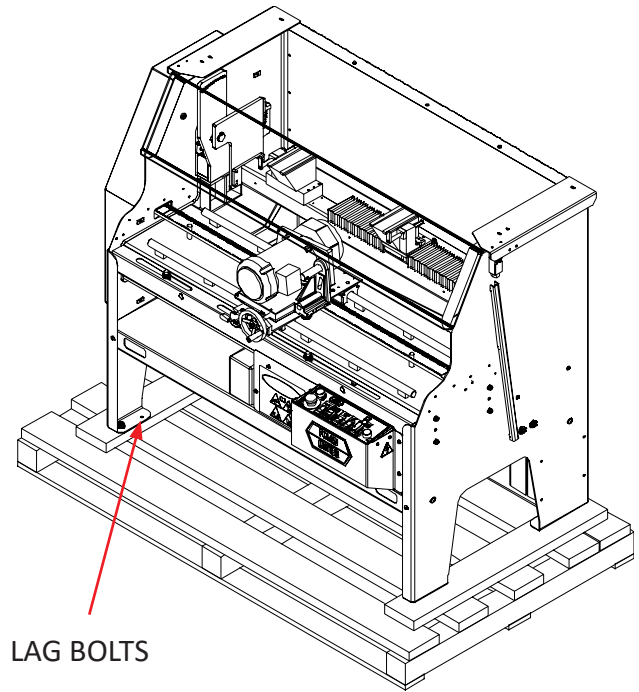

FIG. 7
1. Unbolt the grinder legs from the bottom pallet. (There are 2 - Lag bolts on each leg. See Fig 7.)